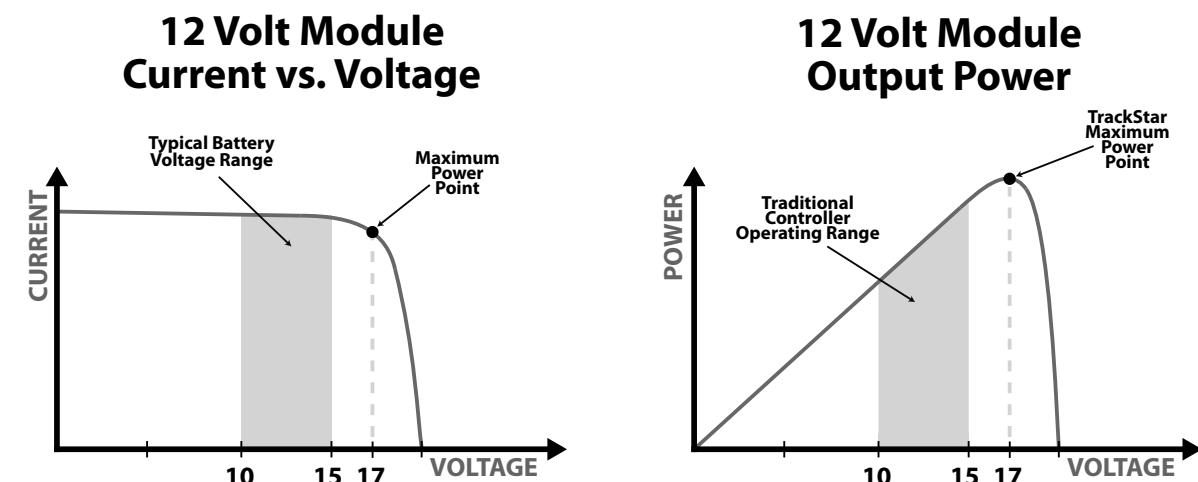

Figure 4-1. Nominal 12 Volt Solar Module I-V curve and output power graph.
Traditional controllers connect the solar module directly to the battery when recharging. This requires that the solar module operate in a voltage range that is usually below the module's V_{mp} . In a 12 Volt system for example, the battery voltage may range from 10 - 15 Vdc, but the module's V_{mp} is typically around 16 or 17 Volts. Figure 4-1 shows typical current vs. voltage and power output curves for a nominal 12 Volt off-grid module.
The array V_{mp} is the voltage where the product of output current and voltage (Amps x Volts) is greatest, which falls on the "knee" of the solar module I-V curve as shown on the left in Figure 4-1.
The TriStar MPPT 150V provides seven (7) standard battery charging settings that are selectable with the settings DIP switches (see Figure 4.1 above). These standard charging settings are suitable for lead-acid batteries ranging from sealed (gel, AGM, maintenance-free) to Flooded and L-16 cells. In addition, an 8th charging setting provides for custom set-points using MSView™ PC software.